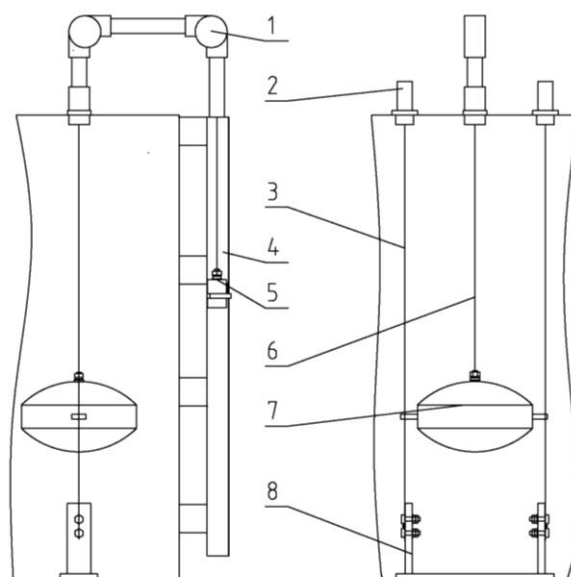

Figure 1 Main Product Structure
| 2.1 Main Structure of Product-Figure 1 | 4 |
2.1 Main Structure of Product-**Figure 1**
The UFZ-4A buoy level gauge is designed according to the principle of force balance. The working principle is shown in Figure 1. Let the weight of the float be W , the buoyancy of the float be F , the weight of the pointer weight be G , and the friction of the whole system be f . When the float is immersed in a position in the liquid, these forces are in equilibrium. $W-F-G\pm f=0$. When the level changes, it causes the change of the position of the float. The pointer hammer is moved by the wire rope, and the corresponding position of the level is displayed on the scale to achieve the purpose of level measurement.